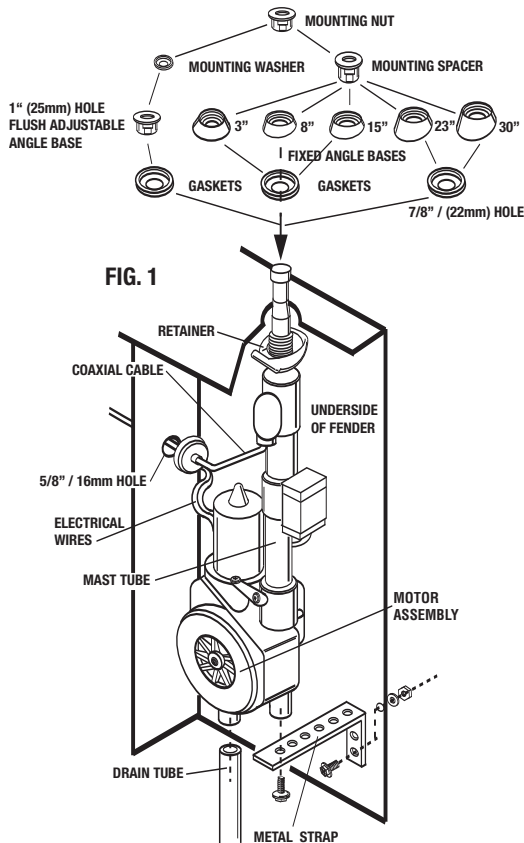

FIG. 1
B) Six mounting bases are provided with the antenna. Five fixed angle and one adjustable angle flush mount base. (See Figure 1).
C) Remove the installed flush mounting base from new antenna. Select the proper base with correct angle for fender (as shown in figure 1) or reuse original mounting base previously removed from old antenna. **NOTE: The five fixed angle bases require a 7/8" / 22mm hole. The adjustable angle flush base requires a 1" 25mm hole.**
F) Install the antenna from the underside of the fender and assemble the base above the fender according to Figure 1. **BE SURE THE RETAINER RESTS EVENLY ON THE UNDERSIDE OF THE FENDER TO ALLEVIATE ANY POSSIBLE DAMAGE TO THE VEHICLE.** Align the mast vertically by slightly tightening the antenna mounting nut while adjusting the mast to be vertical.
I) Attach the drain tube to the bottom of the motor assembly and route to the outside of the car. Avoid any kinks or bends in the tube that may restrict drainage. (as shown in figure 1.)